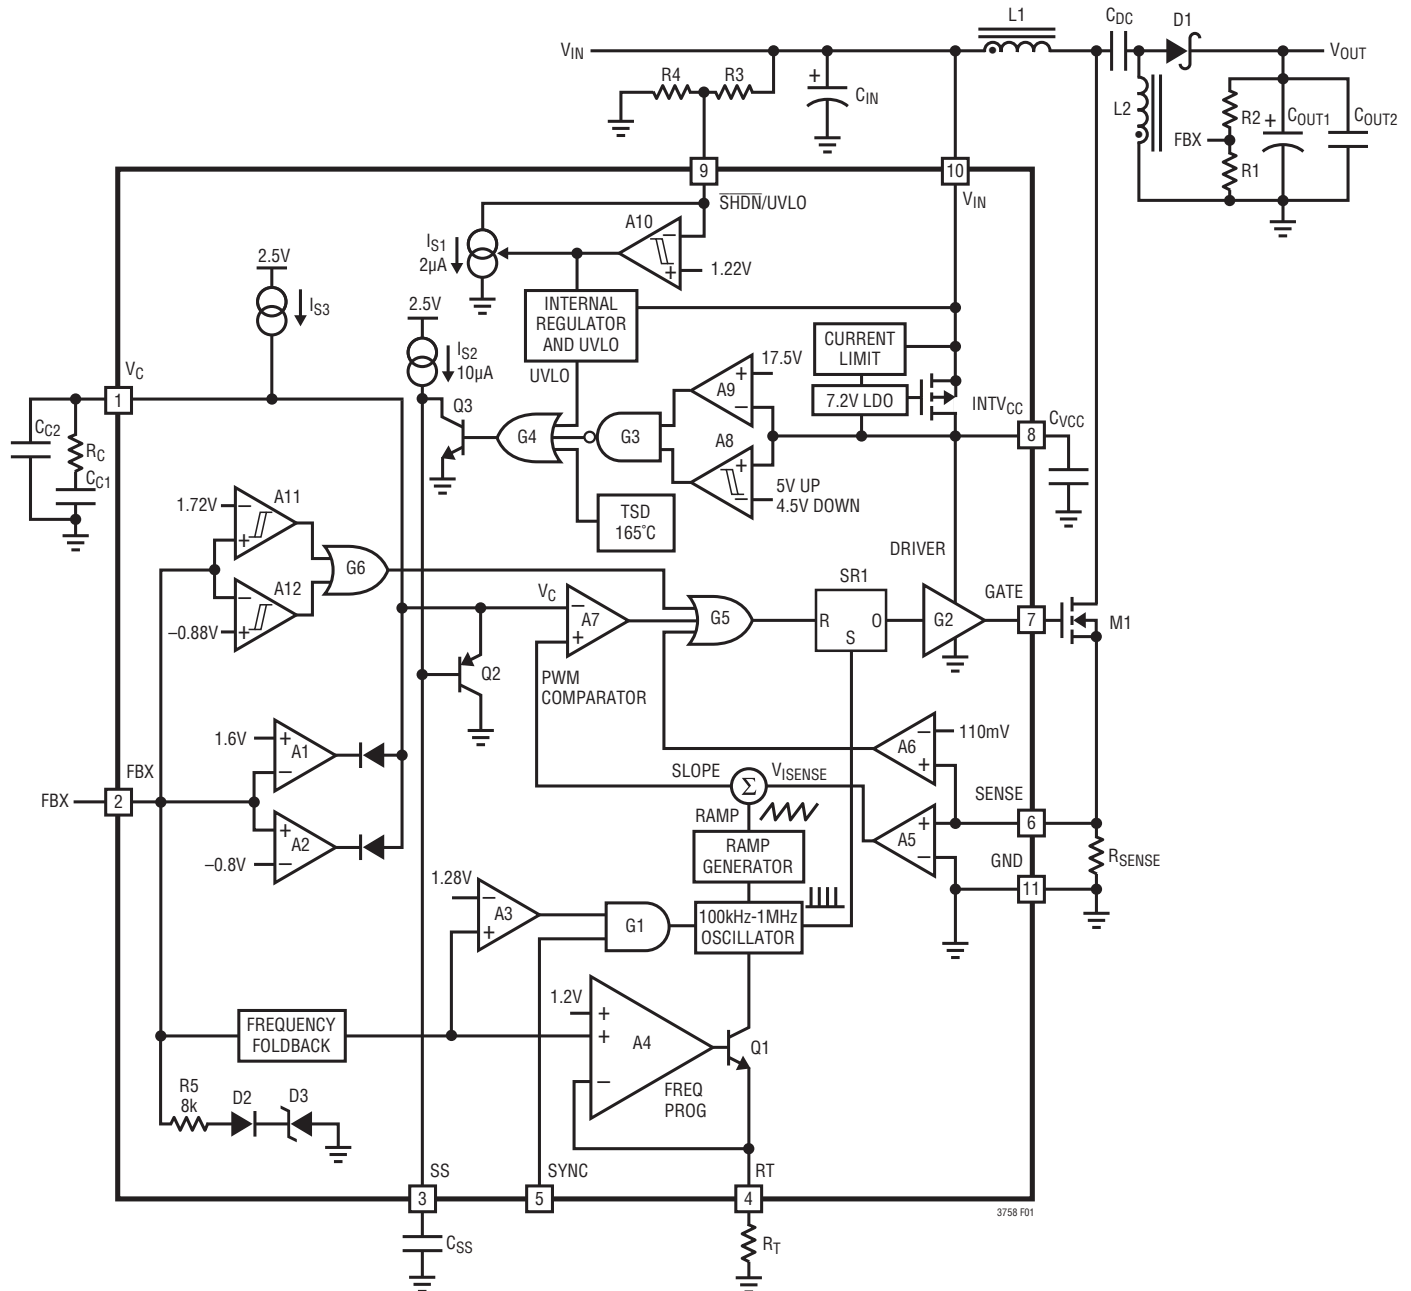

Figure 1. LT3758 Block Diagram Working as a SEPIC Converter
The LT3758 uses a fixed frequency, current mode control scheme to provide excellent line and load regulation. Operation can be best understood by referring to the Block Diagram in Figure 1.
The LT3758 is capable of generating either positive or negative output voltage with a single FBX pin. It can be configured as a boost, flyback or SEPIC converter to generate positive output voltage, or as an inverting converter to generate negative output voltage. When configured as a SEPIC converter, as shown in Figure 1, the FBX pin is pulled up to the internal bias voltage of 1.6V by a voltage divider (R1 and R2) connected from  $V_{OUT}$  to GND. Comparator A2 becomes inactive and comparator A1 performs the inverting amplification from FBX to  $V_C$ . When the LT3758 is in an inverting configuration, the FBX pin is pulled down to -0.8V by a voltage divider connected from  $V_{OUT}$  to GND. Comparator A1 becomes inactive and comparator A2 performs the noninverting amplification from FBX to  $V_C$ .
The purpose of this current is to allow the user to program the rising hysteresis. The Block Diagram of the comparator and the external resistors is shown in Figure 1. The typical falling threshold voltage and rising threshold voltage can be calculated by the following equations:
An internal, low dropout (LDO) voltage regulator produces the 7.2V INTVCC supply which powers the gate driver, as shown in Figure 1. The LT3758 contains an undervoltage lockout comparator A8 and an overvoltage lockout comparator A9 for the INTVCC supply. The INTVCC undervoltage (UV) threshold is 4.5V (typical), with 0.5V hysteresis, to ensure that the MOSFETs have sufficient gate drive voltage before turning on. The logic circuitry within the LT3758 is also powered from the internal INTVCC supply.
The choice of operating frequency may be determined by on-chip power dissipation, otherwise it is a trade-off between efficiency and component size. Low frequency operation improves efficiency by reducing gate drive current and MOSFET and diode switching losses. However, lower frequency operation requires a physically larger inductor. Switching frequency also has implications for loop compensation. The LT3758 uses a constant-frequency architecture that can be programmed over a 100kHz to 1000kHz range with a single external resistor from the  $R_T$  pin to ground, as shown in Figure 1. The  $R_T$  pin must have an external resistor to GND for proper operation of the LT3758. A table for selecting the value of  $R_T$  for a given operating frequency is shown in Table 1.
The output voltage  $V_{OUT}$  is set by a resistor divider, as shown in Figure 1. The positive and negative  $V_{OUT}$  are set by the following equations:
In the applications where  $V_{OUT}$  is pulled up by an external positive power supply, the FBX pin is also pulled up through the R2 and R1 network. Make sure the FBX does not exceed its absolute maximum rating (6V). The R5, D2, and D3 in Figure 1 provide a resistive clamp in the positive direction. To ensure FBX is lower than 6V, choose sufficiently large R1 and R2 to meet the following condition:
The LT3758 addresses this mechanism with the SS pin. As shown in Figure 1, the SS pin reduces the power MOSFET current by pulling down the  $V_C$  pin through Q2. In this way the SS allows the output capacitor to charge gradually toward its final value while limiting the start-up peak currents. The typical start-up waveforms are shown in the Typical Performance Characteristics section. The inductor current  $I_L$  slewing rate is limited by the soft-start function.
load transient response, when compared to the LT3758. New internal circuits ensure that the transient from not switching to switching at high current can be made in a few cycles. The optimum values depend on the converter topology, the component values and the operating conditions (including the input voltage, load current, etc.). To compensate the feedback loop of the LT3758/LT3758A, a series resistor-capacitor network is usually connected from the  $V_C$  pin to GND. Figure 1 shows the typical  $V_C$  compensation network. For most applications, the capacitor should be in the range of 470pF to 22nF, and the resistor should be in the range of 5k to 50k. A small capacitor is often connected in parallel with the RC compensation network to attenuate the  $V_C$  voltage ripple induced from the output voltage ripple through the internal error amplifier. The parallel capacitor usually ranges in value from 10pF to 100pF. A practical approach to design the compensation network is to start with one of the circuits in this data sheet that is similar to your application, and tune the compensation network to optimize the performance. Stability should then be checked across all operating conditions, including load current, input voltage and temperature.